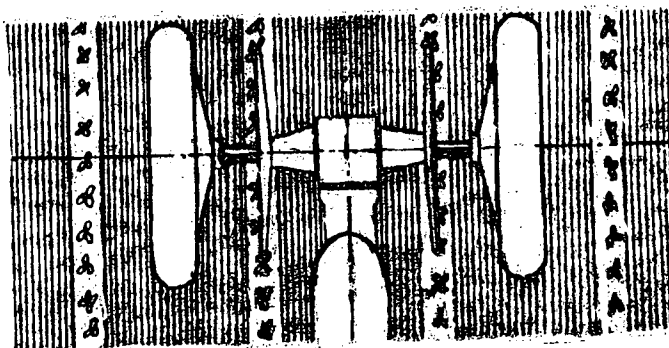

Fig. 4
Check the track width of the tractor and, if necessary, adjust it (Fig. 4).
- a) Place the tractor in working position so that the wheels fall between the rows (Fig. 4).